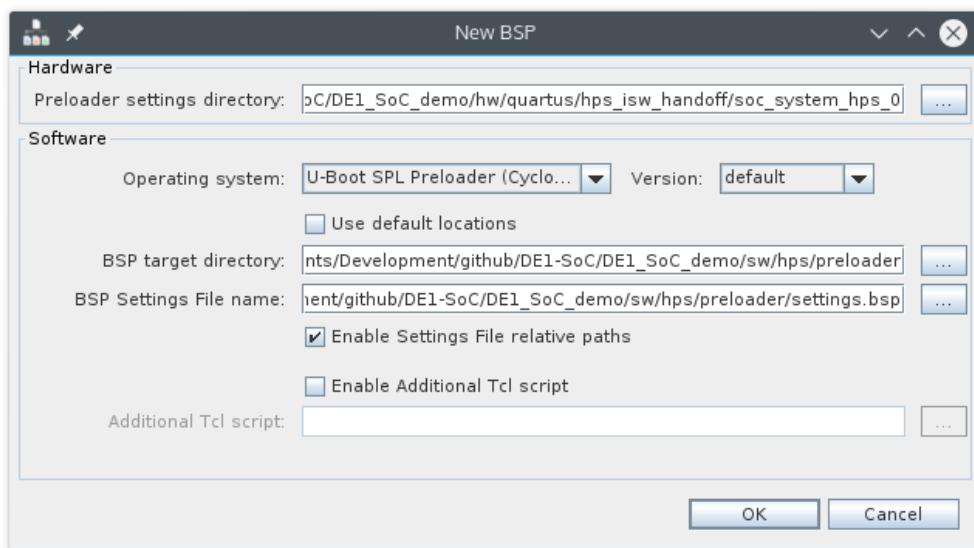

Figure 13-1. New BSP Dialog
- b. Disable the “Use default locations” checkbox and under the “BSP target directory”, select the “DE0\_Nano\_SoC\_demo/sw/hps/preloader” directory. You should have something similar to Figure 13-1.